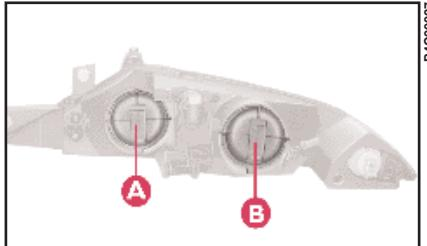

fig. 10
- 1) Remove covers A and B (fig. 10) by turning them partially in an anti-clockwise direction.
- 1) Remove the cover B (fig.10) by turning partially in an anti-clockwise direction.